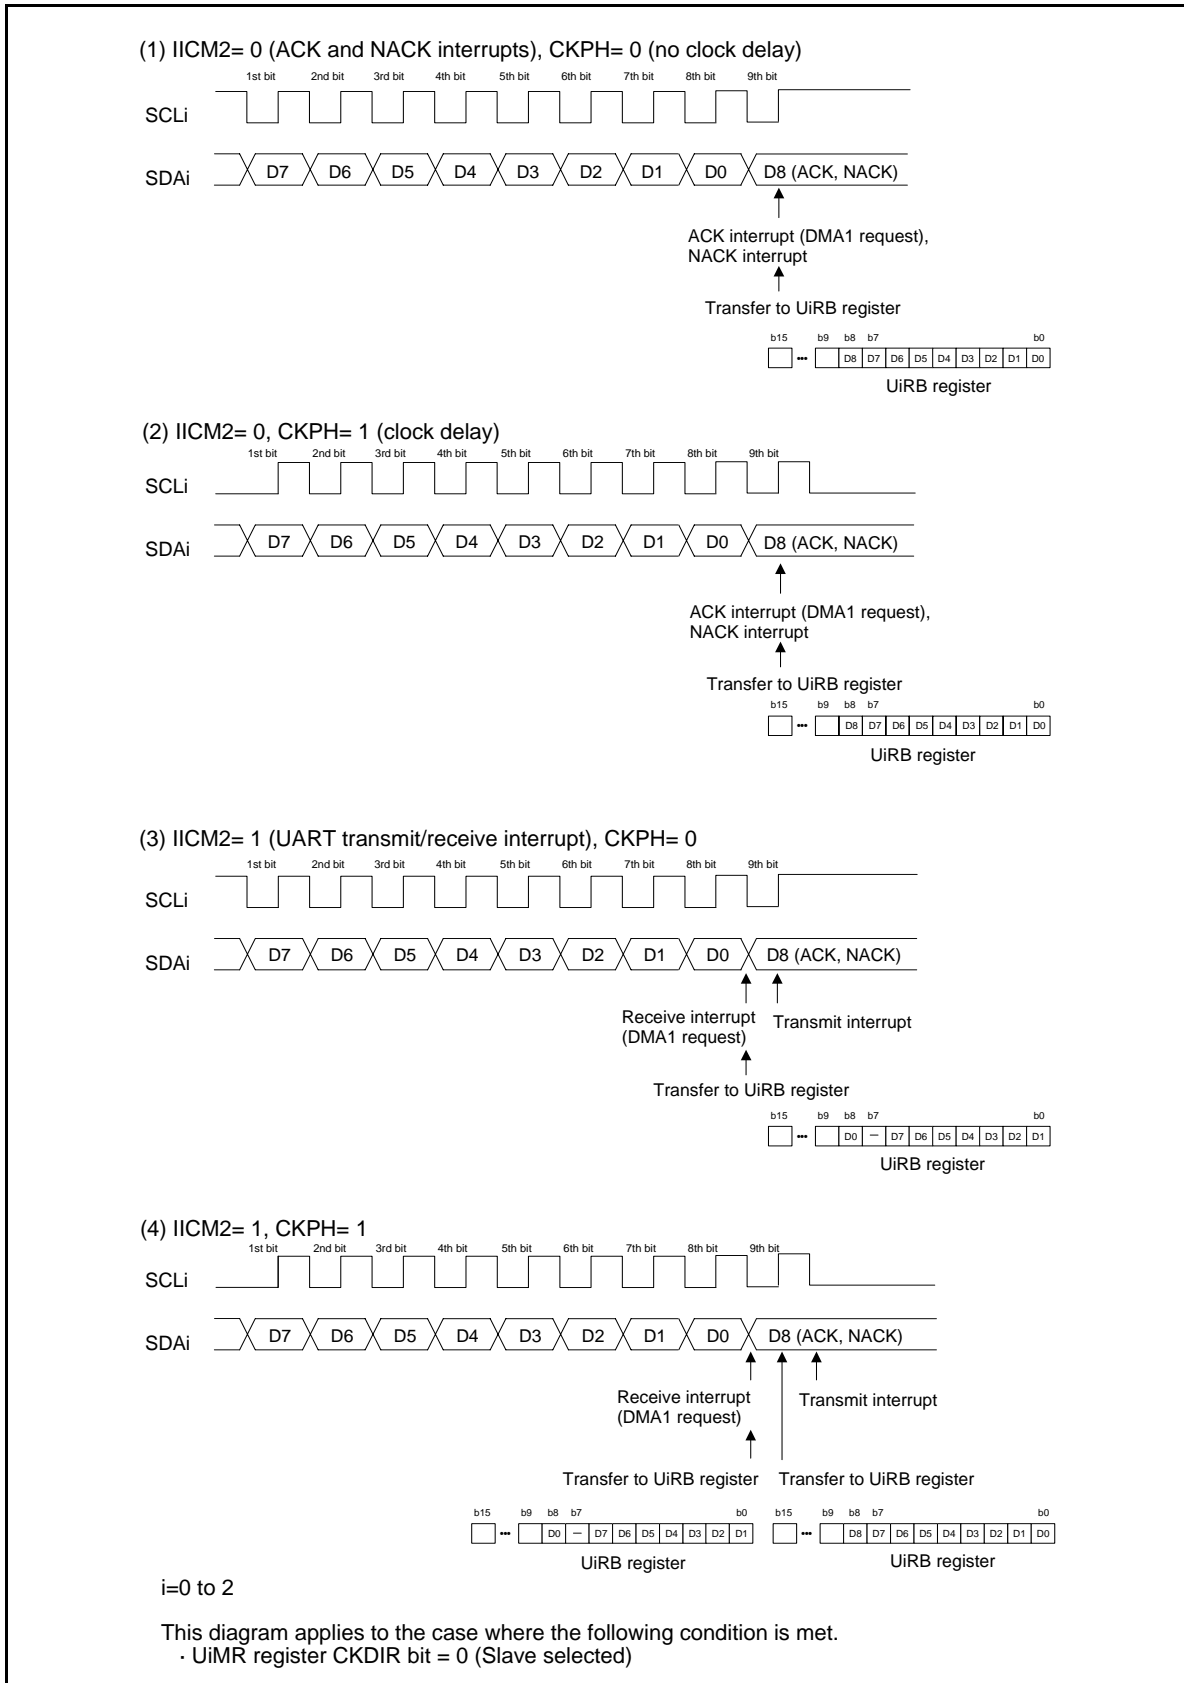

Figure 17.26 Transfer to UiRB Register and Interrupt Timing
- See **Figure 17.26 Transfer to UiRB Register and Interrupt Timing**.
Data is transmitted/received using a transfer clock like the one shown in Figure 17.26 Transfer to UiRB Register and Interrupt Timing.